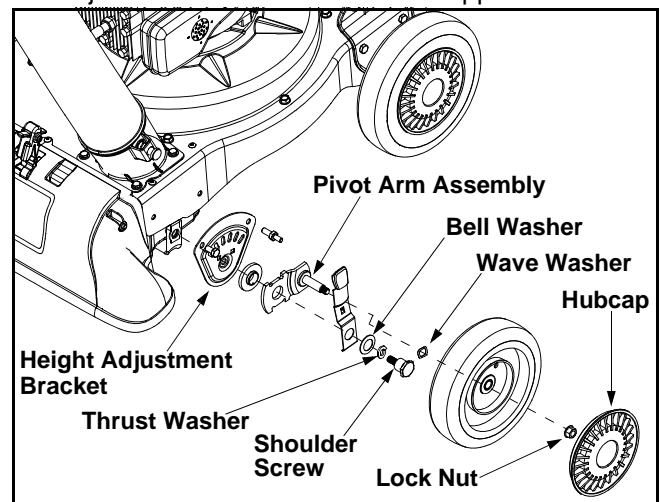

Figure 13
- Remove the front hubcaps, lock nuts, front wheels, and wave washers that attach to the pivot arm assemblies. See Figure 13.